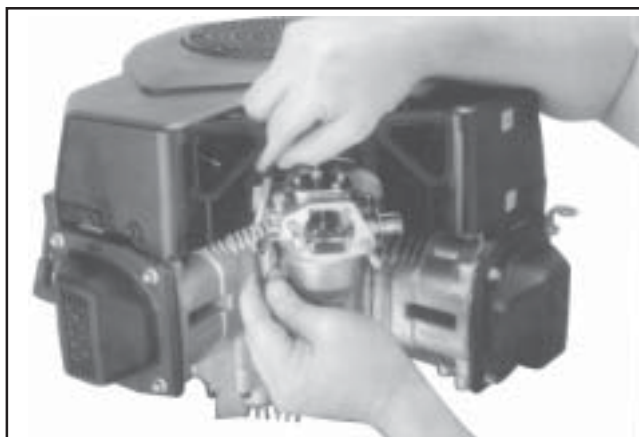

Figure 11-71. Installing External Governor Controls (One-Barrel Carburetor).
2. Make sure the throttle linkage is connected to the governor lever and the throttle lever on the carburetor. See Figure 11-71.